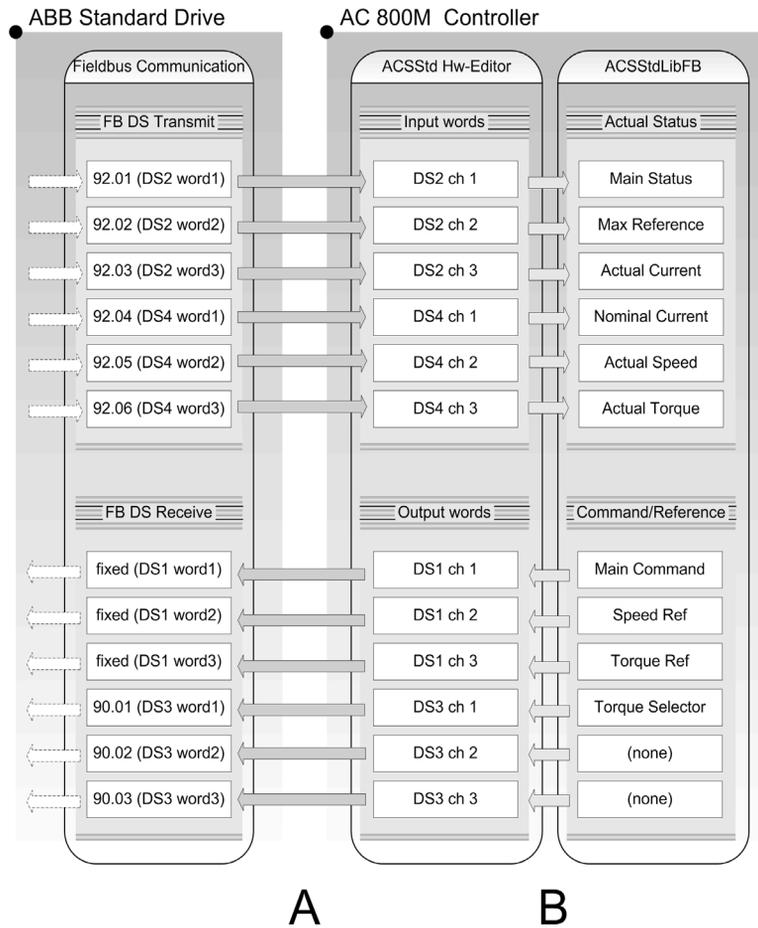
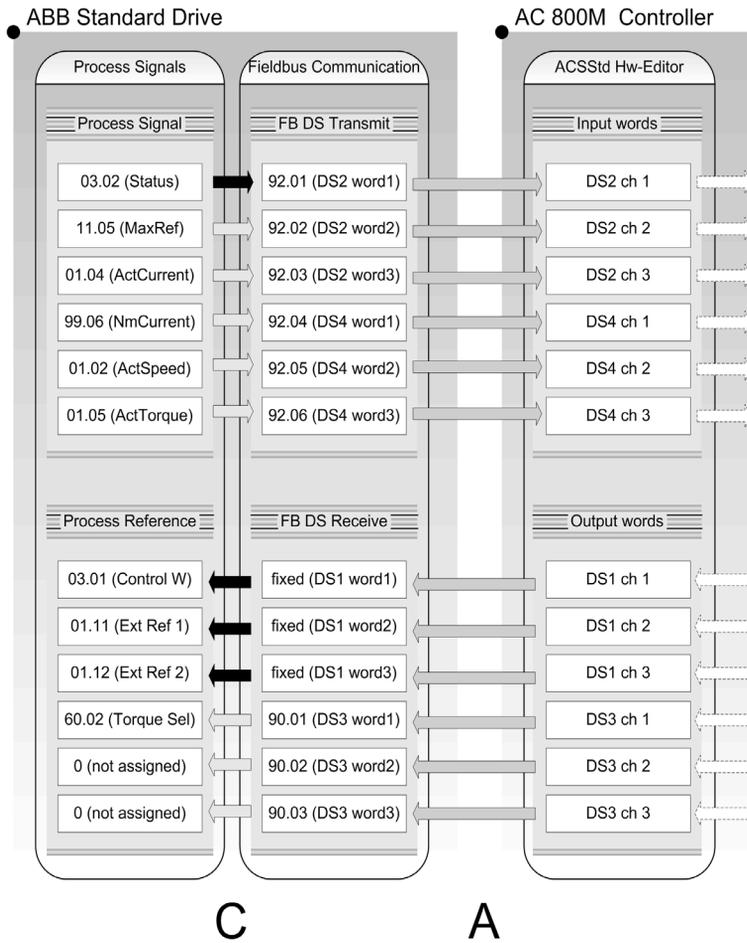

Figure 191. Overview of the connections between an ABB Standard Drive and an AC 800M Controller, part A-B
Figure 192. Overview of the connections between ABB Drive and AC 800M Controller, part C-A (black arrow = fixed connection)
Figure 191 and Figure 192 shows communication between an AC 800M Controller and an ABB Standard Drive.
- a. Establish the communication channels (part A in Figure 191 and Figure 192).
- b. Define the data to be sent and received in AC 800M Controller (part B in Figure 191).
In AC 800M, this is done by making variable connections between the ACStdDrive function block and the Hardware Editor of the applied communication interface, using variable connections. The most important thing is that the required process data on the Drive side must be connected on the same communication channel used by the corresponding data in ACStdDrive function block. For example, in Figure 191, Actual Speed in ACStdDrive function block must be connected to DS4 ch 2, so that the parameter can get the correct information.
- c. Define the data to be sent and received in the ABB Standard Drive (part C in Figure 192).
For example, define the connection between parameter index 01.02 (ActSpeed) with parameter index 92.05 (DS4 word 2) in ABB Standard Drive. How to connect those parameter indexes in the Drive is described in ABB Drives documentation. A black arrow in Figure 192 indicates a fixed connection that is not configurable.